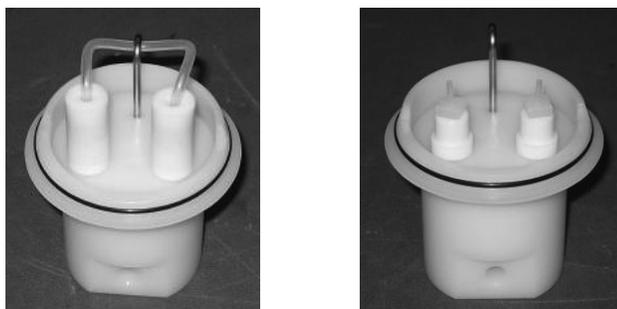

Figure 10 : Diffusion Tubing Assembly
1. Remove the diffusion tubing assembly by unhooking the tubing from the hook, pulling off the two diffusion tubing caps and pulling the tubing off of the connectors, as shown in Figure 10.